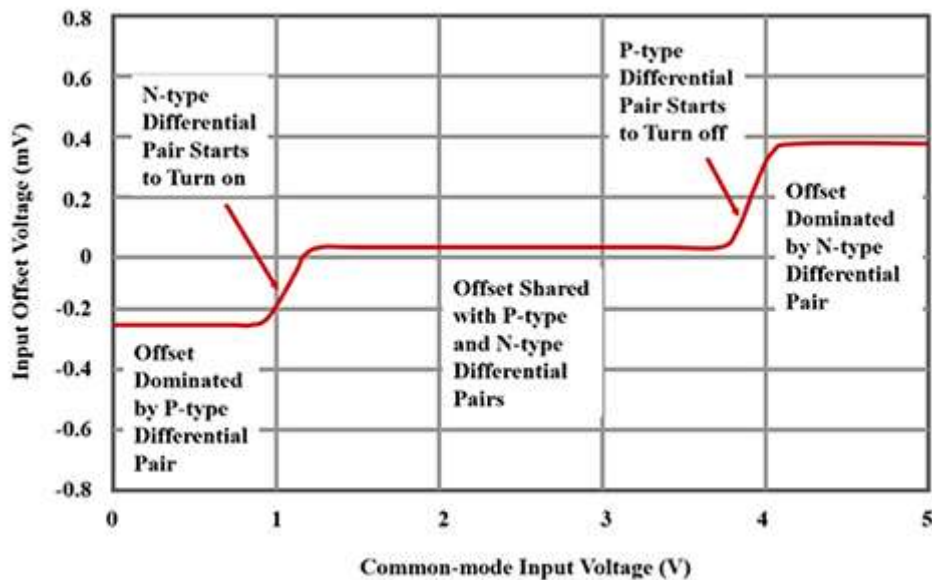
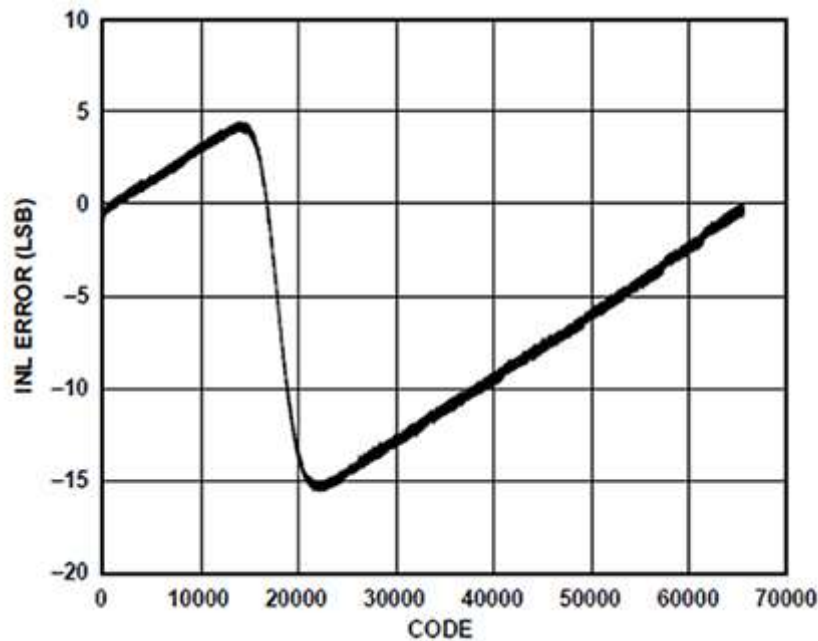

Figure 6: With two input differential pairs, the offset voltage creates distortion across the common-mode input voltage range. (Image source: Bonnie Baker)
Figure 7: DAC nonlinearity with an amplifier output buffer that has two differential input structures. (Image source: Analog Devices)
*The amplifier's common-mode distortion:* The input and output swing of the U4 DAC buffer op amp travels from rail-to-rail. A typical rail-to-rail input amplifier achieves rail-to-rail input swing using two differential pairs. At the low common-mode range the bottom differential pair is active, and at the high end the other pair is active. Each differential pair has its own offset voltage. This typical complementary dual differential pair introduces crossover distortion (Figure 6). Similarly, the amplifier's change in offset voltage causes nonlinearity as a DAC buffer (Figure 7).
Figure 7 shows the op amp's nonlinearity. When the common-mode voltage increases, the active differential pair changes from the P-type pair to the N-type pair causing a crossover distortion. The crossover distortion causes an error swing from +4 LSB to -15 LSB.